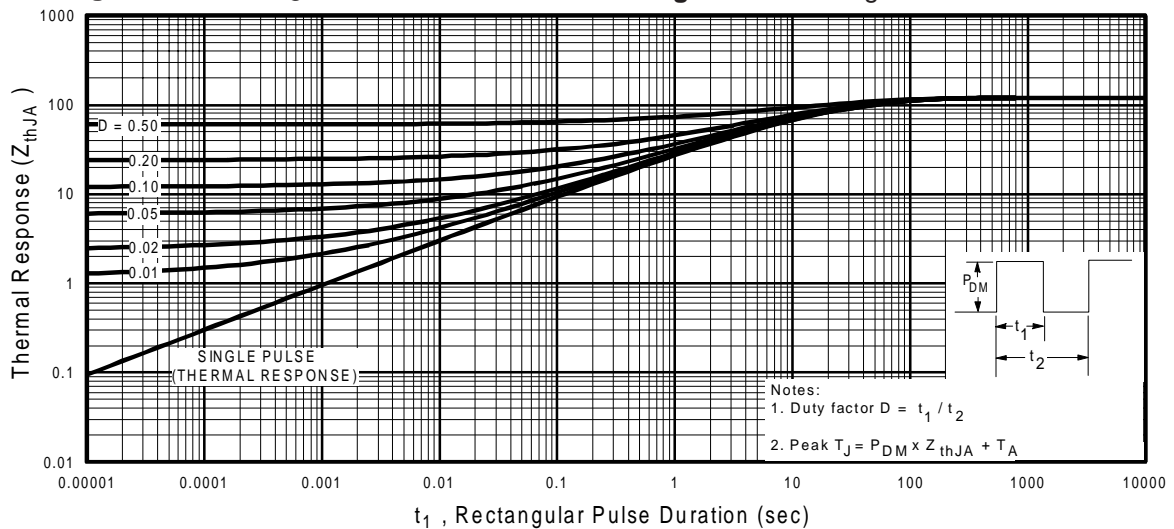

Fig 11. Maximum Effective Transient Thermal Impedance, Junction-to-Ambient
- ① Repetitive rating; pulse width limited by max. junction temperature. (See fig. 11)
- ② $V_{DD} = 15V$, starting $T_J = 25^\circ\text{C}$, $L = 13\text{mH}$